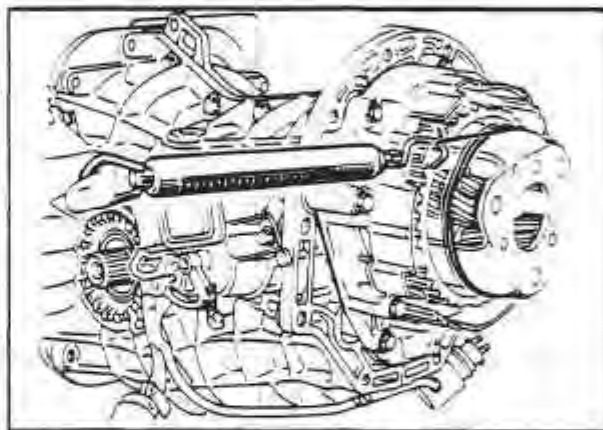

Fig. 74 BEARING PRE-LOAD ADJUSTMENT
- b. Wrap a piece of string around the planetary gear carrier and pull with a spring scale to measure the bearing pre-load. *Fig. 74*